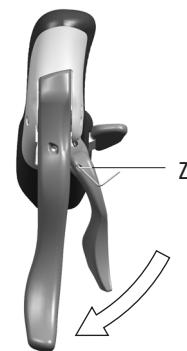
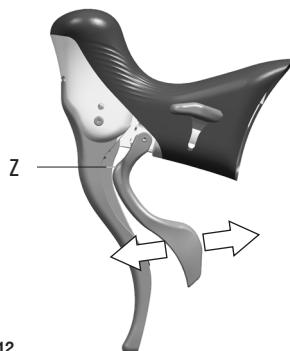

Fig.11
Fig.12
The position of the external lever (closer to or further from the brake lever) can be adjusted by moving the grub screw present inside the Z hole (Fig. 11/12). The correct position of the outer lever must be such that the lever almost skims but does not actually touch the rubber pad on the brake lever. If you need to change the position, follow the procedure outlined below:
- Insert a 1.5 mm Allen wrench into the Z hole to reach the grub screw. Turn the Allen key in a clockwise direction (Fig. 11) if you need to move the lever further from the brake lever (Fig. 12) or counter-clockwise if you need to bring the lever closer.